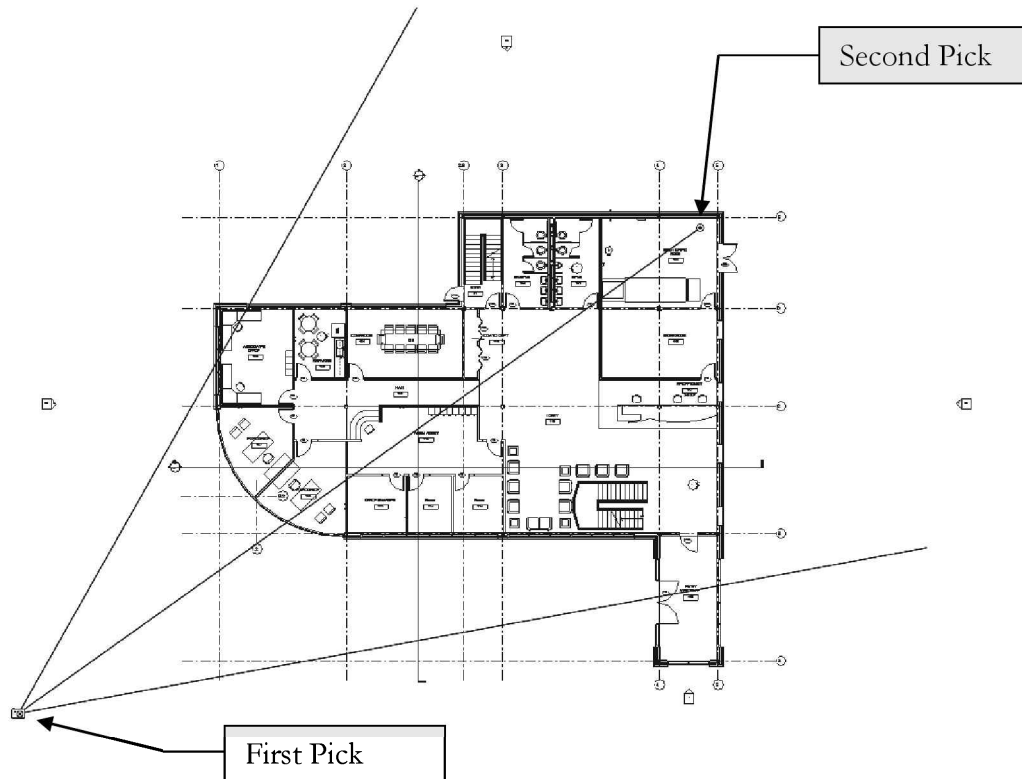

FIGURE 15-2.1 Placing a Camera in Level 1 plan view
3. Click the mouse in the lower left corner of the screen to indicate the camera eye location (Figure 15-2.1).
4. Next, click near the Northeastern corner; see Figure 15-2.1 to specify the direction you wish to look.